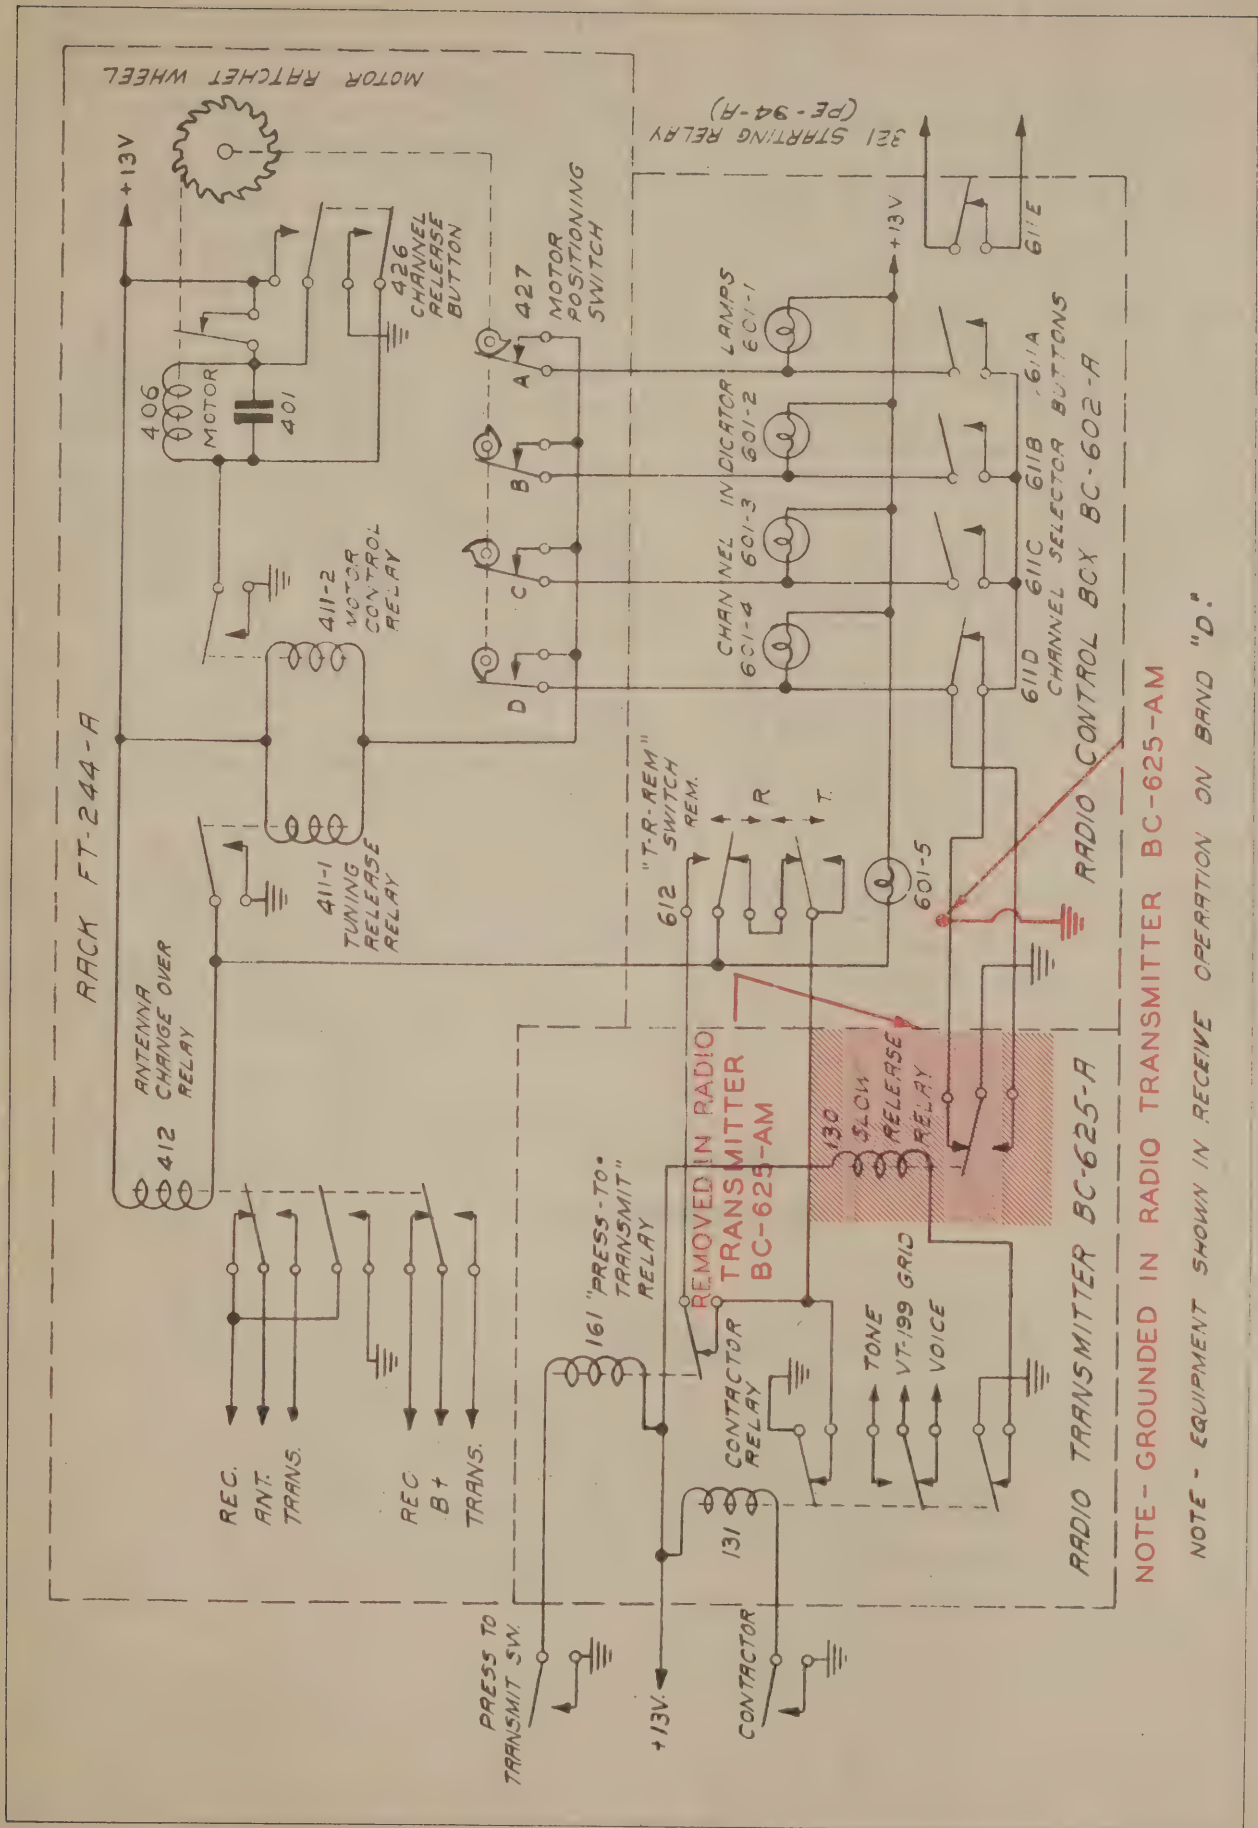

Figure 4-5. Radio Set SCR-522-A—Simplified Schematic Diagram of Control Circuits
(1) The positions of all relays and switches when Radio Set SCR-522-A is operating normally as a receiver on channel "D" are shown in figure 4-5. It is assumed that each transmitter and receiver channel has been pre-tuned to one of the four desired frequencies.
(2) If channel selector pushbutton "A" is pressed, the contacts of switch 611D are opened mechanically and contacts 611A are closed, permitting a flow of current from the +13-volt supply through the coils of relays 411-1 and 411-2, the contacts of motor-positioning switch 427A, switch 611A, and the contacts of relay 130 to ground (—13 volts). Relays 411-1 and 411-2 immediately operate.